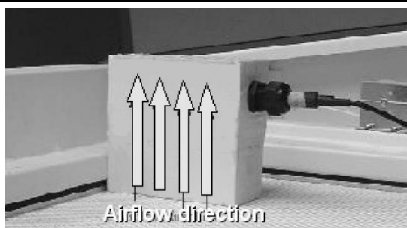

Figure 5-1
Sensor Failure / Sensor Misalignment	A. Air Flow Sensor failure / misalignment Airflow sensor the top of the cabinet (E/S series model) or inside the unit below the top filter (D/G series model). Airflow sensor for D/G series models can be accessed from the back of the unit. See Figure 5-1 below. It is a stainless steel tube with 2 round holes facing up.
- If your observations are different, check airflow sensor connection on top of the unit (see Figure 5-1) and at connector D pin 9,10,11,12 on electrical panel for any bad/loose connection.